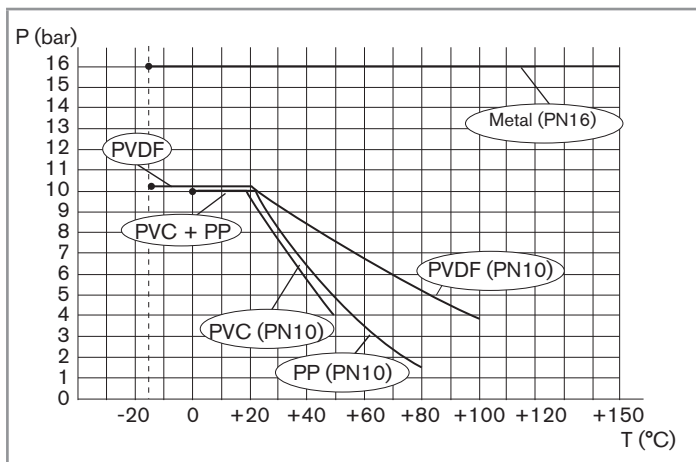

Fig. 3: Fluid temperature/pressure dependency curves for T-fittings used on their own
- Take account of the temperature/fluid pressure dependency according to the materials from which the fitting is made (see Fig. 3) and to the measuring device used (see the relevant user manual).